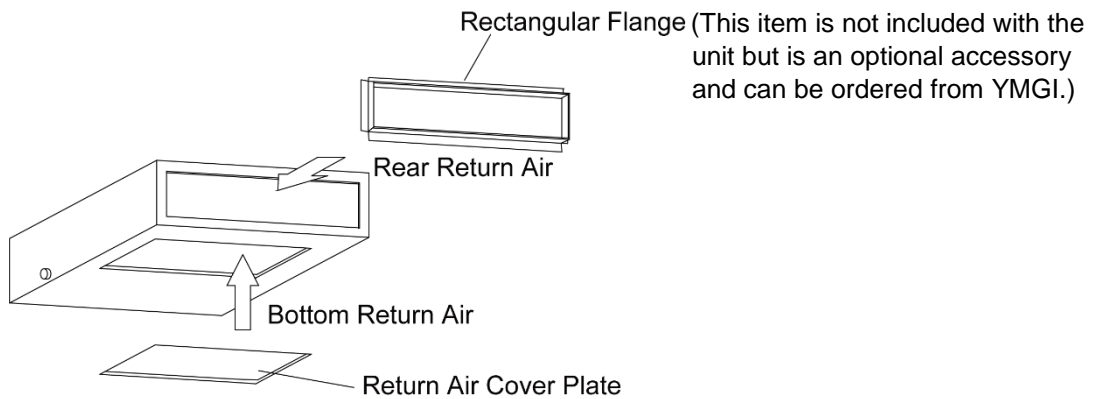

Fig22
- Shape and Size of Air Outlet and Air-return Opening (Fig22)
1. The default installation location of the rectangular flange is at the back and the return air cover plate is at the bottom, as shown in Fig22.